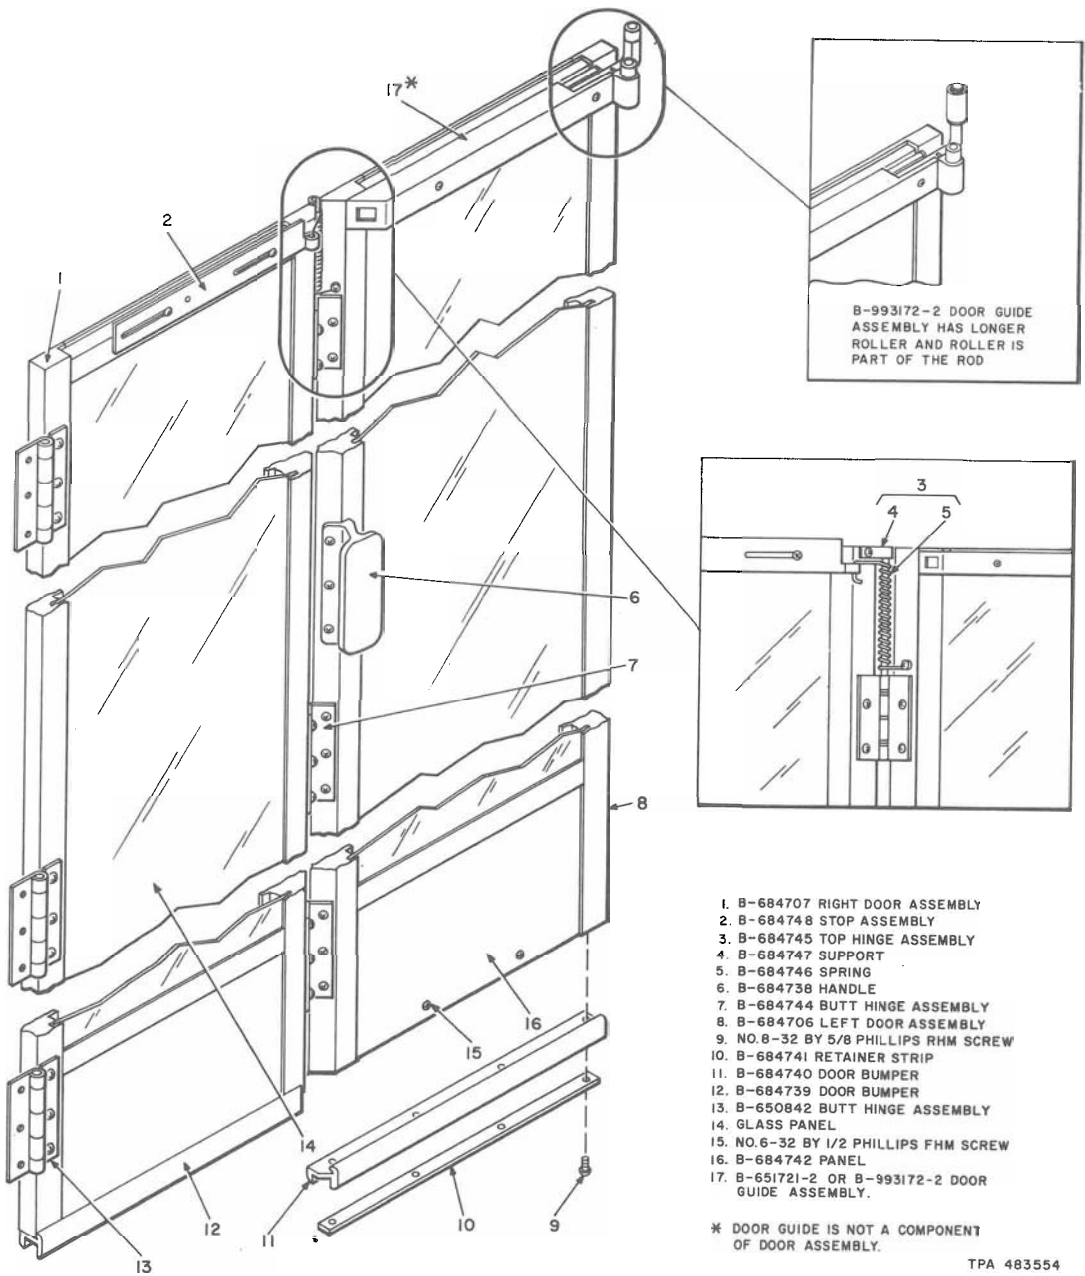

Fig. 24—B-684705 Door Assembly
#### **DOOR REQUIREMENTS AND MAINTENANCE (See Fig. 24 for Replacement Parts)**
**4.39** In outdoor locations, the door shall be held open 2 to 3 inches when in the normal position. Ensure that maximum tension is obtained on spring in center of door (Fig. 24).
**4.46** Replace damaged bumpers along bottom of door (Fig. 24).
**4.51** The parts listed in Table C are not shown on Fig. 24, 25, and 26 but may be ordered as necessary.